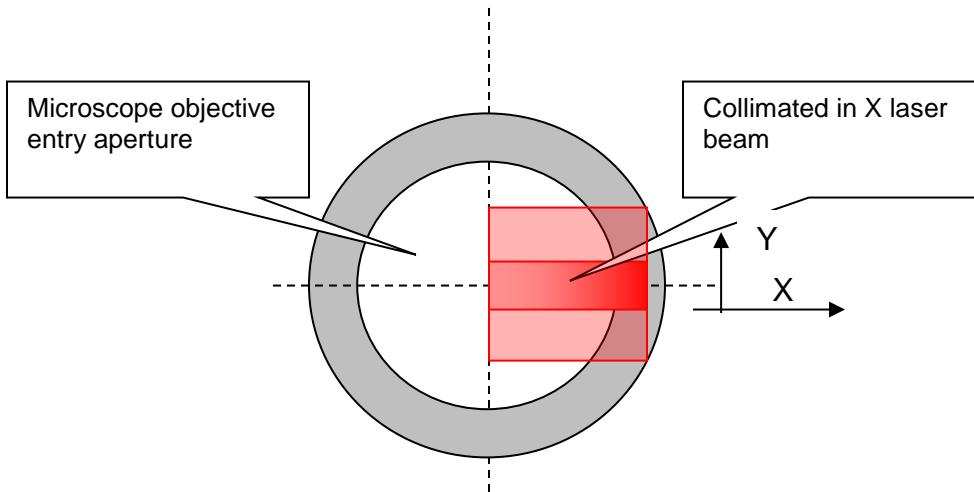

Figure 4-2 Alignment: Laser beam versus the aperture opening
In order to assure the appropriate alignment the ATF6 sensor illumination should enter the objective aperture maintaining the same relative orientation. See [\[FIGURE 4-2\]](#) for details.
The goal of sensor alignment is to achieve the laser beam entry position as depicted in [\[FIGURE 4-2\]](#) AND assure that laser enters objective orthogonally.
- By translating the sensor along the elongated slots in mounting plate. This motion shifts sensor beam along X axis as per Figure 4-2.
- **Adjust sensor shift along X (see [Figure 4-2]) by measuring angle of transient characteristic on low objective (5x) with "move&graph".**
- **Adjust sensor shift along Y (see [Figure 4-2]) by observing laser line characteristic on high objective (50x)**
- **Adjust sensor shift along X (see [Figure 4-2]) on high objective (50x) if capture range is compromised.**